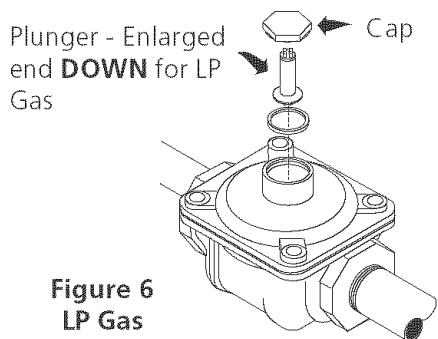

Figure 6
1. Convert the Pressure Regulator from Natural Gas to LP Gas (see figure 6)